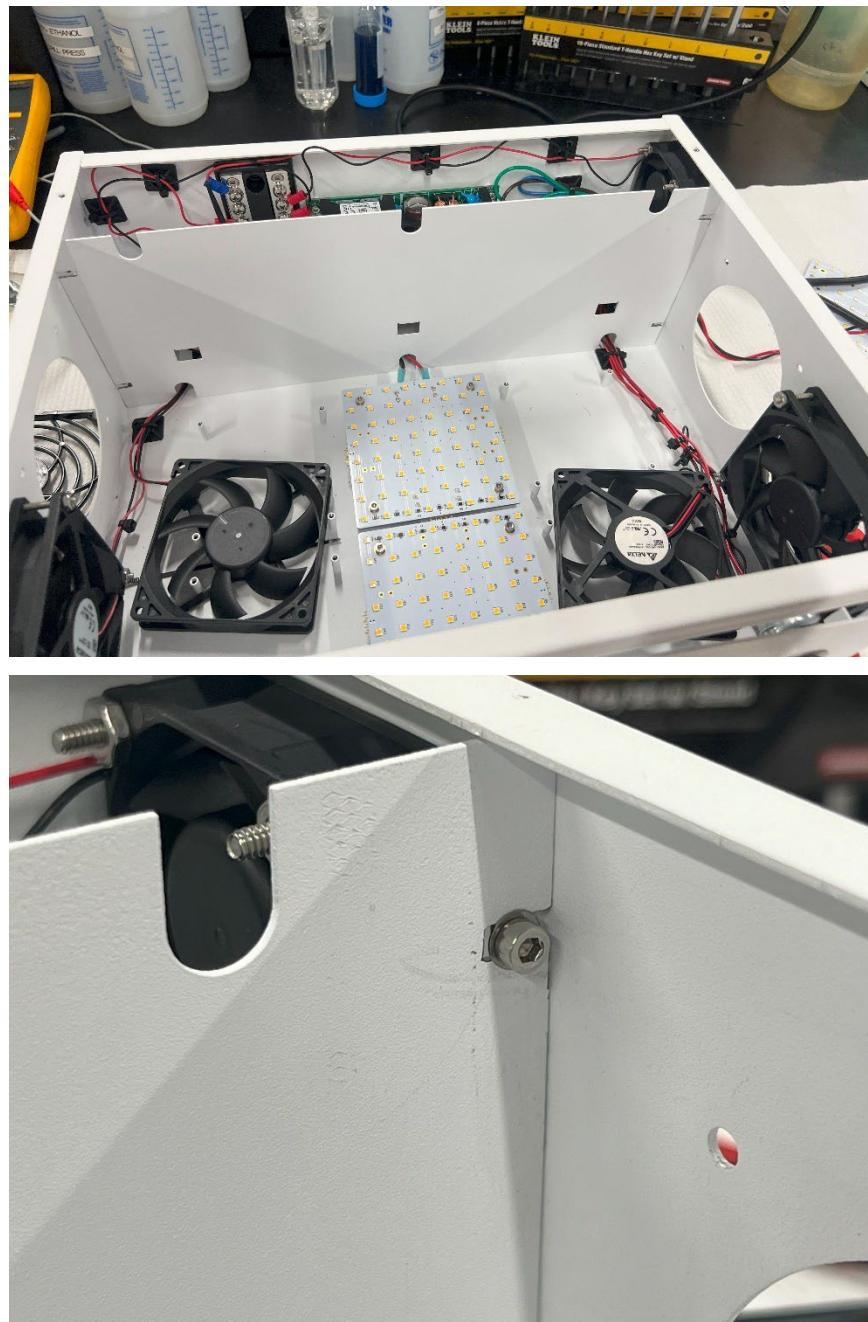

Figure 11: Fully installed bulkhead with wires through the bottom gaps (top). Location of proper mounting with M3 screws (bottom).
2. Orient the Bulkhead so that the tabs are facing towards the back closer to the floor. Carefully lower it into the enclosure and align it with the mounting holes. See Figure 11 for reference. Note: You may have to turn the bulkhead diagonally to fit it into the enclosure.
3. Using the small M3 screws, attach the Bulkhead Panel to the Enclosure. See Figure 11 for reference. Make sure the wires are coming through the gaps at the bottom and are not being crushed by the bulkhead.